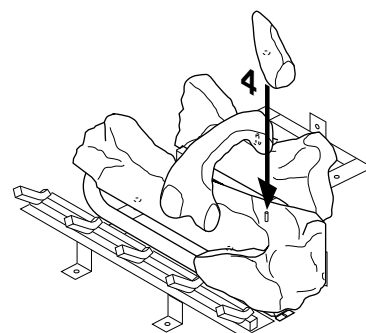

Figure 48 - Installing Log No. 4
4. Place log #4 (small, round log) on the pin on the right side of front log as shown in Figure 48.